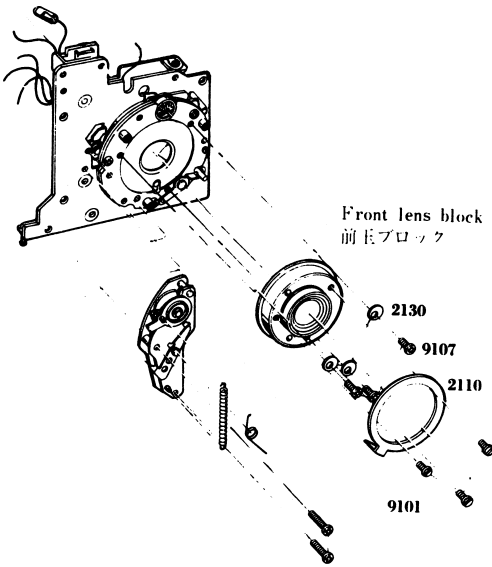

Fig. 24
1. Apply grease (No.006) to the helicoid, and assemble it into the position (Fig.24) noted during disassembly.
1. ヘリコイドにグリース (No.006) を塗り，分解時に確認しておいた位置より組込む (Fig. 24)。